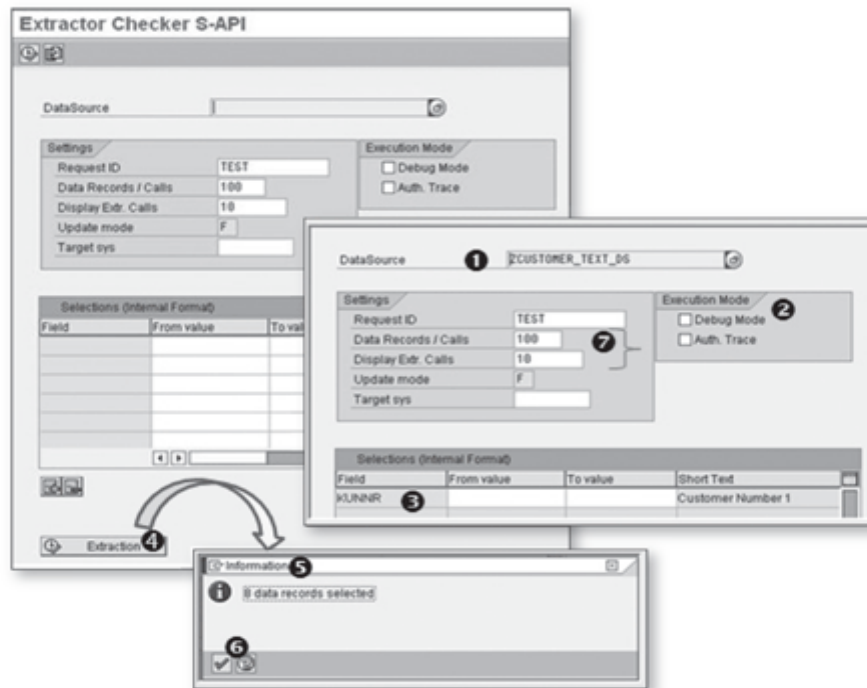

Figure 8.12 Extractor Checker Initial Screen
Enter the name of the DataSource you want to test in the DataSource field, as shown in ❶ of Figure 8.12. You have two options (❷) for the execution mode: Debug Mode, which helps in starting the debugger and takes you through step-by-step execution of the underlying DataSource program; and Auth. Trace, which is used for tracing authorization while accessing various tables and objects used by the underlying DataSource program.
The selection fields flagged when you created the DataSource are also available here. As shown in ❸ of Figure 8.12, KUNNR is available for selection.